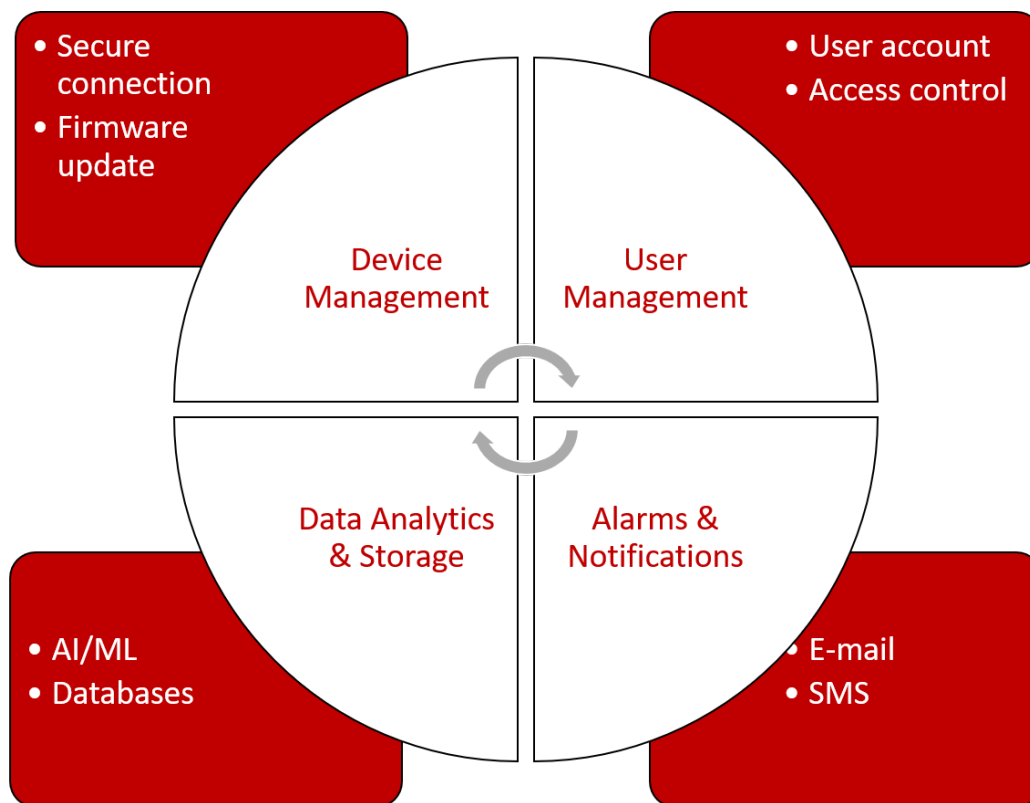

Figure 4: Components of a data platform
redundancies. A typical platform consists of the components as shown in figure 4. The data platform enables the use of technologies like Artificial Intelligence (AI) and Machine Learning (ML) to perform advanced data analytics that generates value additions to the application.